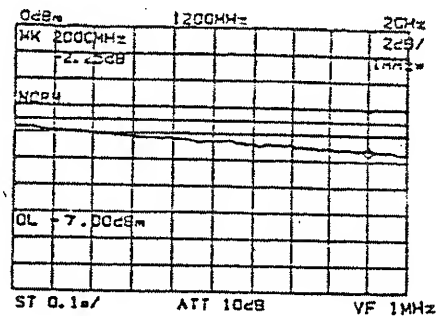

Figure 4-37 Reading the Characteristic of Waveform from the Marker Display
- ⑧ When the marker is displayed, the relative value between the marker point on the measured waveform and display line can be read directly in the marker level (Figure 4-37). To clear the NORMALIZE mode, press the ☐ ^{SHIFT} and ☐ _{NORM} keys again.